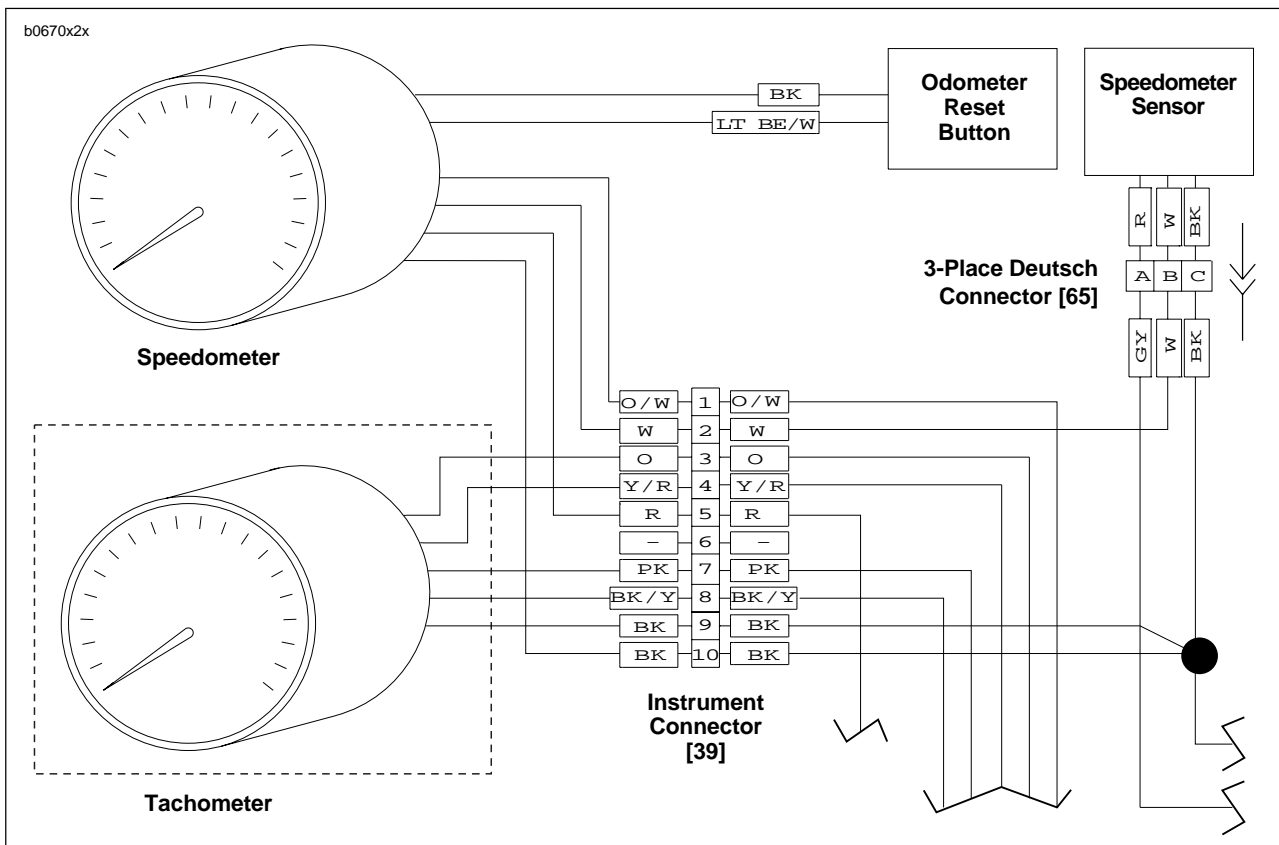

Figure 7-63. Speedometer Sensor Wiring
2. See Figure 7-63. Disconnect 3-place Deutsch connector [65] for speedometer sensor.